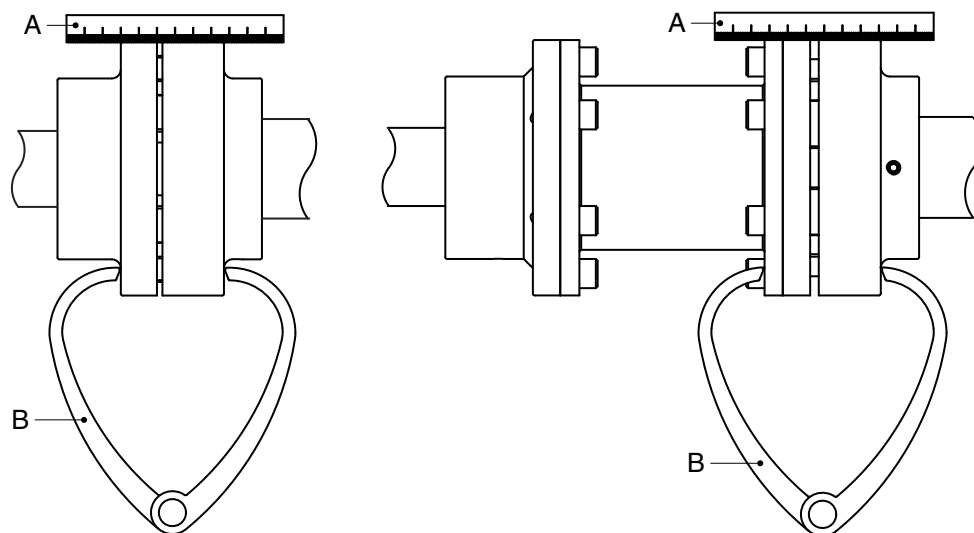

Figure 3: Aligning the coupling by means of a ruler and a pair of outside calipers.
- 7 Push the upper coupling half downward. For the correct distance between the coupling halves, see figure 3 with the corresponding table. Then secure the coupling half on the motor shaft.
- 2 Place a ruler (A) on the coupling. The ruler should touch both coupling halves over the entire length, see figure 3
- 4 Check the alignment once again using a pair of external callipers (B) at 2 diametrical opposite points on the sides of the coupling halves, see figure 3.